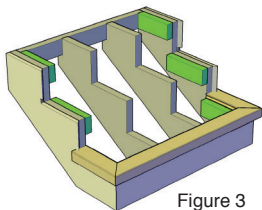

Figure 3
- **TIP:** Remove screw from clip and re-drive at 45° angle to avoid driver interference with stringer (fig. 3)
- Face-screw the back of each final tread board within 3/4" of the ripped edge (fig. 3). Screws will be covered by risers.